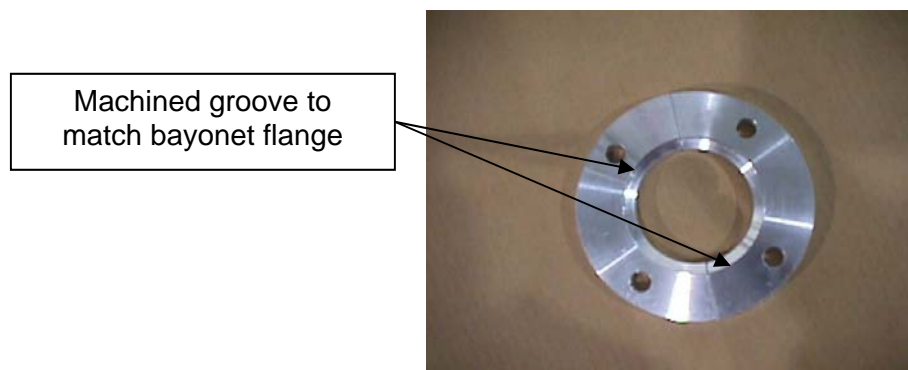

Figure 2.
- 4.) Back-up flanges have machined surface that matches bayonet flange. See Figure 2.